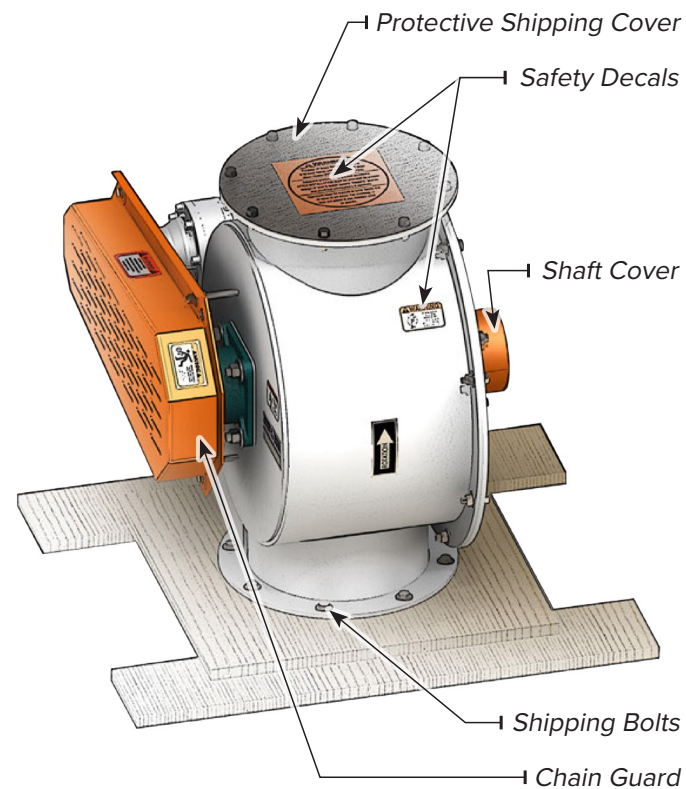

Figure 3
- Remove the shaft cover located on the non-drive end of the shaft and the chain guard (Figure 3).
- Remove shipping bolts securing airlock to the shipping pallet (Figure 3).
- Locate and read all safety decals (Figure 3).
- Remove the protective shipping cover (Figure 3).